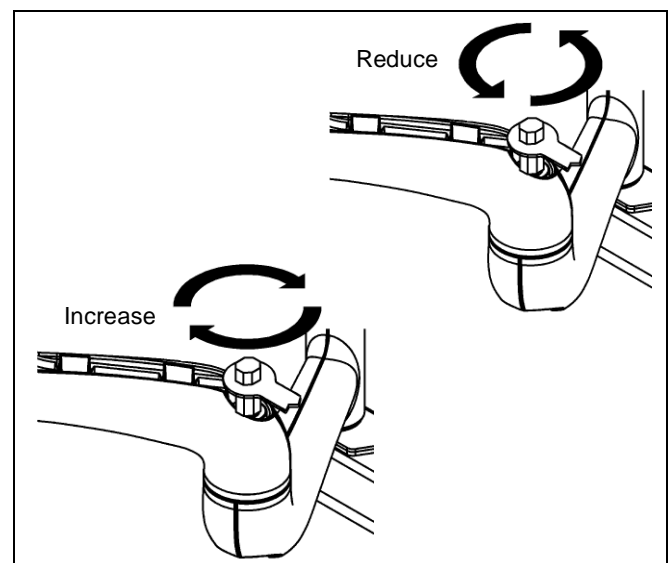

Figure 15
3. Using the wrench provided with the mount, turn adjustment insert clockwise to increase swing arm tension or counterclockwise to reduce swing arm tension. (See Figure 15)